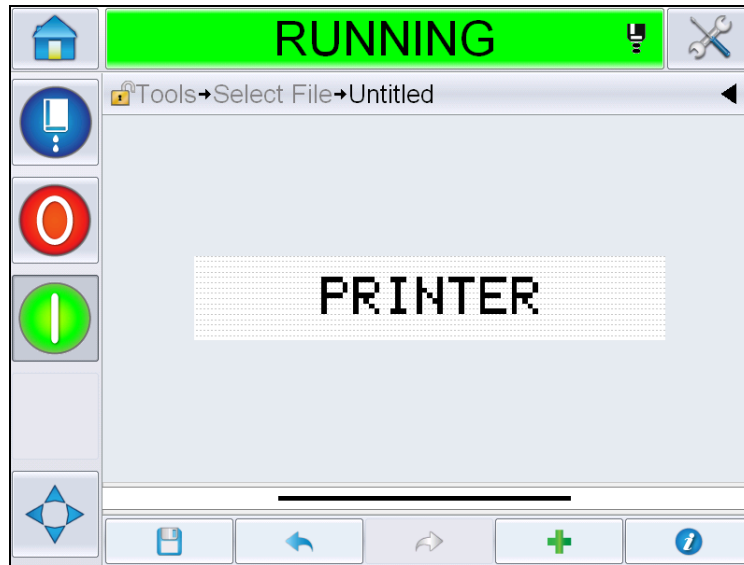

Figure 5-37: Free Text on Message Page
- 17 Select and set the parameters as per the requirement and touch OK. The message with free text is displayed on the *Message* page (Figure 5-37).